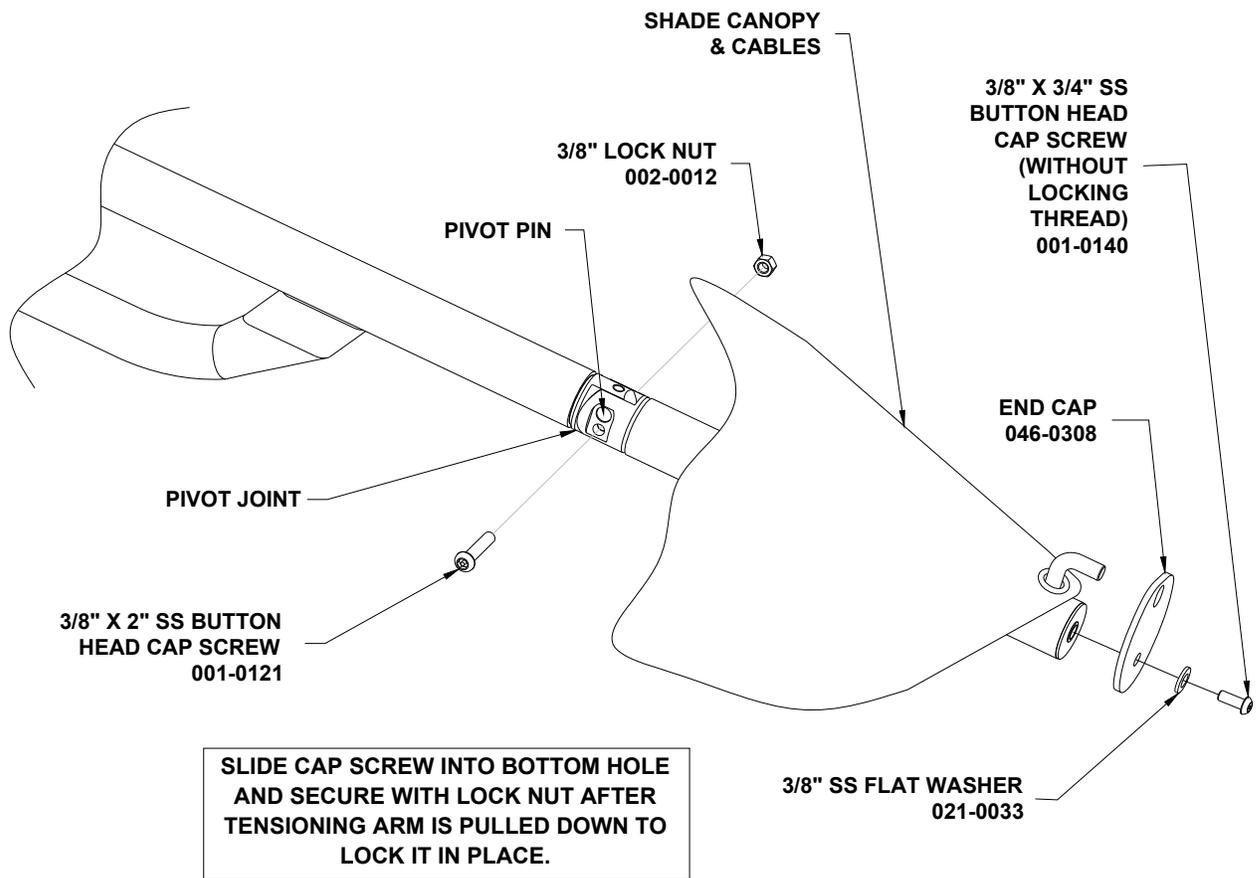

Figure 16: Tensioning Arm in ‘Closed Position’
1. Remove end cap from end of tensioning rafter. See Figure 16.
2. Remove lower 3/8" x 2" button head cap screw and 3/8" locknut at the pivot joint that secures the tensioning arm in the closed position. See Figure 16.
2. Remove lower 3/8" x 2" button head cap screw and 3/8" locknut at all the pivot joints that secure the tensioning arms in the closed position. See Figure 16.
8. When tightening canopy is complete, secure tensioning arms with 3/8” x 2” button head cap screws and 3/8” locknuts. Tighten all hardware on pivot joint. See Figure 16.
9. Install end caps to all rafter ends using 3/8” x 3/4” SS button head cap screw (without locking thread) and 3/8” SS flat washer. See Figure 16.